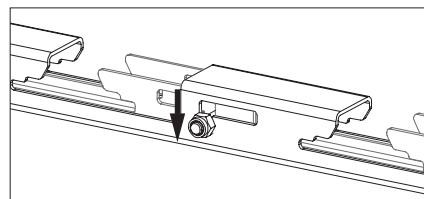

Fig. A4.16
7. Tighten the nut on the locking bolt to prevent unauthorised disassembly. (Fig. A4.16)